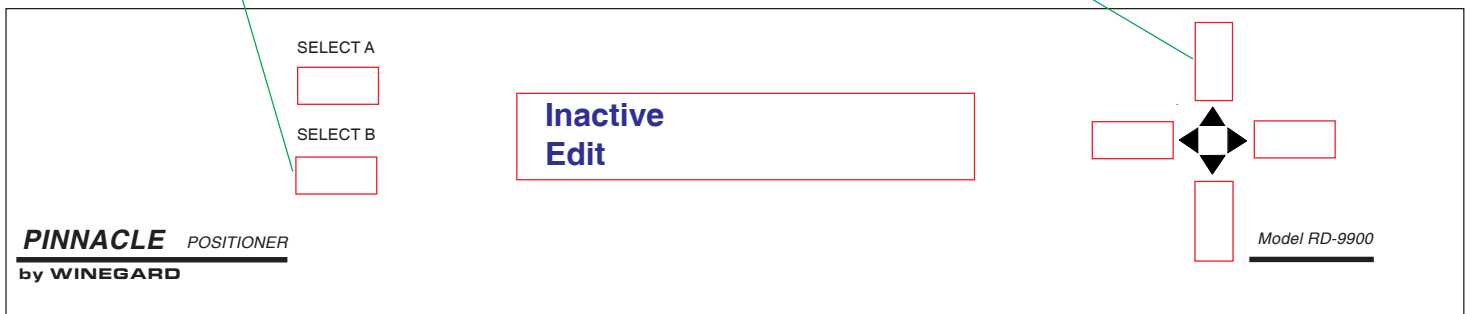

Figure 35
2. The display will show the current search satellite (factory default is the DSS satellite(s) at 101.0 orbital position). Press **[UP]** arrow to scroll to **Inactive**, Figure 35.
3. Press **[SELECT B]** to access edit menu. See Figure 35.